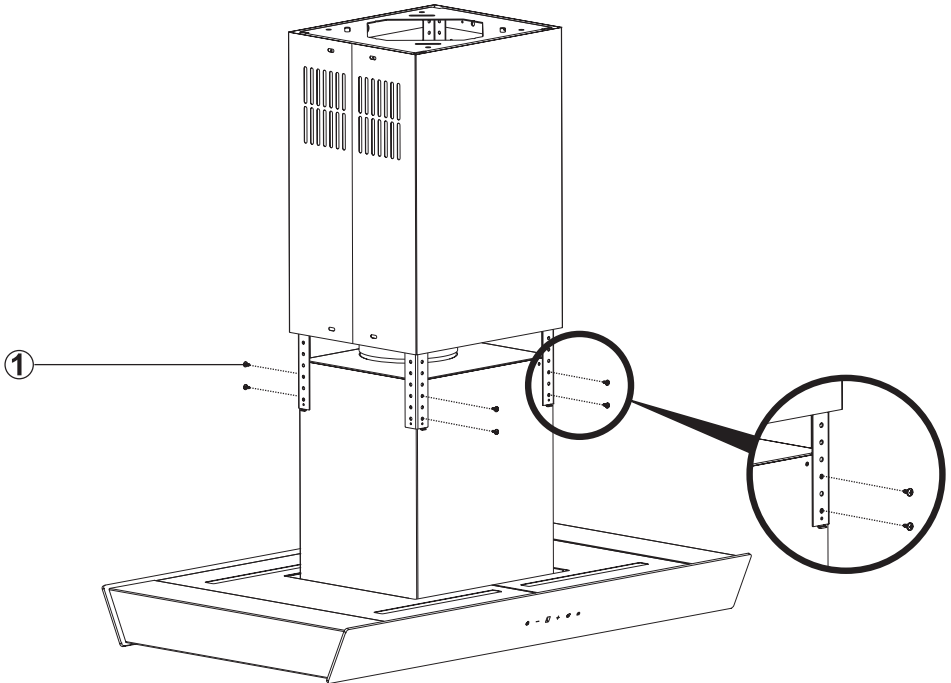

Figure 12: INSTALLATION AND PARTS SECTION 4
- Raise the sheet flues and screw the product onto the product hanger bars with 3.5 x 9.5 rysz screws. Figure 12